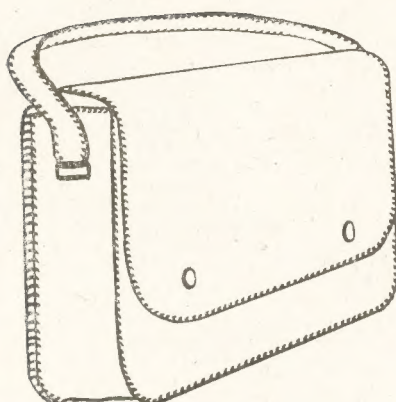

Fig. 1—Completed bag and handle
**A** HANDBAG in leather will outlast more than one bag of the mass-produced type. Also, as the constructor knows how the bag is made up, he can attend better to any repairs that become necessary. A simple bag for the handyman to make is shown at Fig. 1.